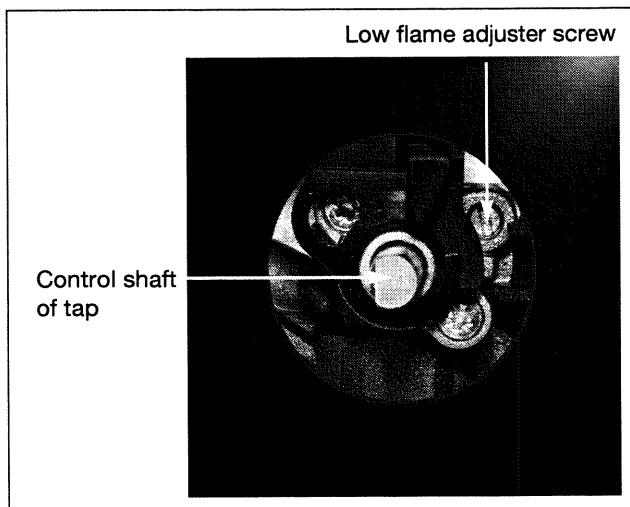

Fig. 5
- Using the small screwdriver, supplied in the bag, **screw fully** the brass, adjustment screw (yellow) (fig.5) clockwise
- using the screwdriver, supplied in the bag, unscrew the yellow, brass, adjustment screw (fig.5) turning it round twice, anti-clockwise